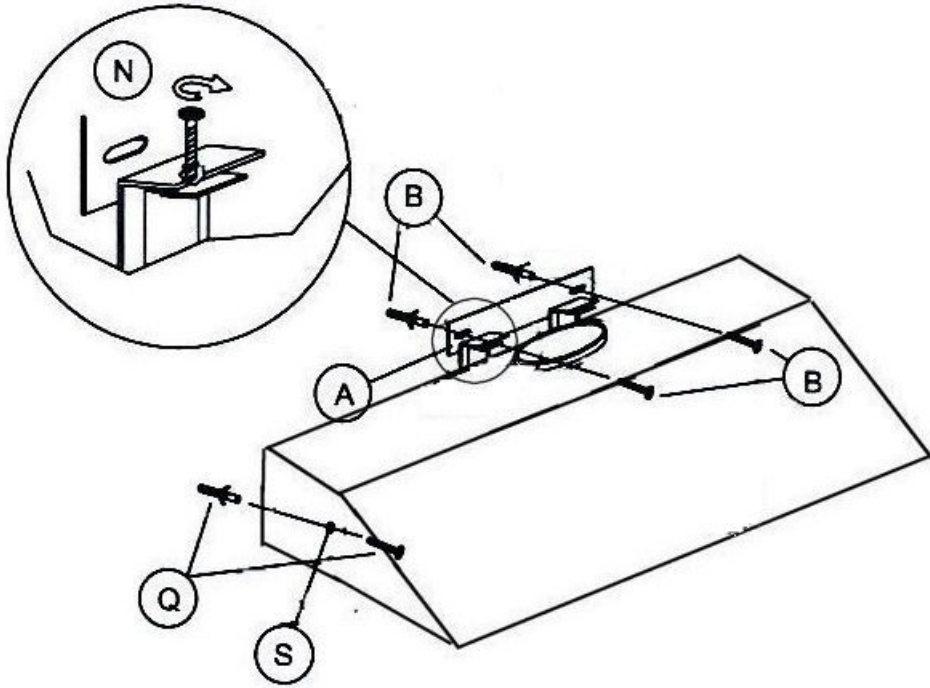

fig.4
- 3) Only in case that you use the spigot reduction to 125 mm (4"59/64) (Fig. 4/L) fix it onto the motor outlet.